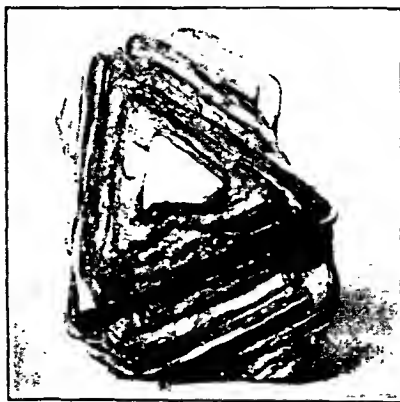

Figure 239 Clinochlore Crystal, West Chester, Pennsylvania
**Clinochlore** is the most attractive of the chlorites, occurring in lustrous, dark bluish-black to blackish-green, six-sided, monoclinic crystals at the Tilly Foster Mine, New York, also near West Chester, Pennsylvania, figure 239.